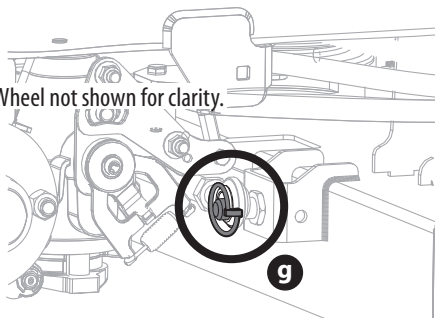

Fig. 37
4. Remove the four lynch pins (f) that secure the deck to the deck lift assembly (Fig. 37).
5. Remove the lynch pin (g) securing the rear stabilizer bar to the rear, right side of the deck (Fig. 37).